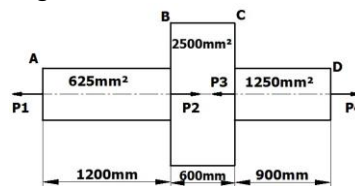

Figure 3
19. A member ABCD is subjected to a pointloads P_1, P_2, P_3 & P_4 as shown in **Figure 3**. calculate the force P_2 necessary for equilibrium . if $P_1 = 45\text{KN}$, $P_3 = 450\text{KN}$ & $P_4 = 130\text{KN}$. Determine stresses in each member also determine the total elongation of the member assuming the E to be $2.1 \times 10^5 \text{N/mm}^2$.